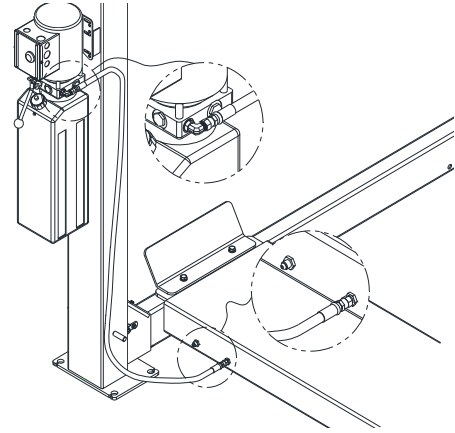

Fig 18 – Supply Line, Side
- 34) For installs with the power unit on the side of the column route the supply line to the bulkhead shown in **Fig 18**.